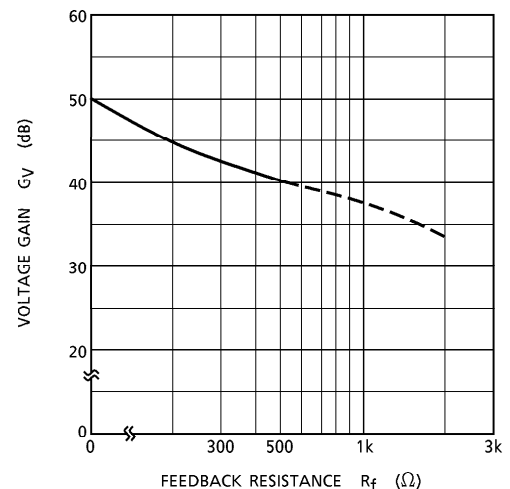

Fig.2
The voltage gain is reduced when R_f is increased. (Fig.2) With the voltage gain reduced, since (1) the oscillation stability is reduced, and (2) the pop noise changes when V_{CC} is set to ON, refer to the items 3 and 4.